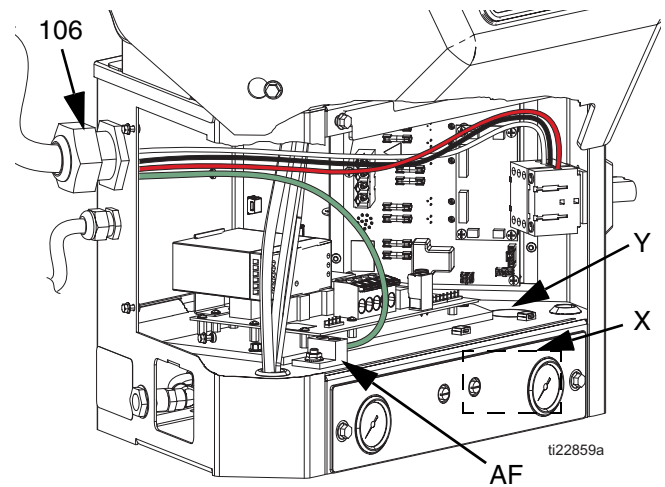

FIG. 15
NOTE: The installed strain relief bushing (106) fits a 0.708-1.260 in. (18-32 mm) OD electrical cord. See FIG. 15. If needed, use a wrench to tighten the strain relief bushing until it is snug on the cable.
4. Insert electrical cord through electrical enclosure strain relief bushing (106). See FIG. 15.
- a. Alternate electrical cord routing: using conduit, run electrical cord from access port (X) through hole (Y). Conduit is required when routing wires near compressed air components.
6. Connect ground wire to chassis ground (AF). See FIG. 15.